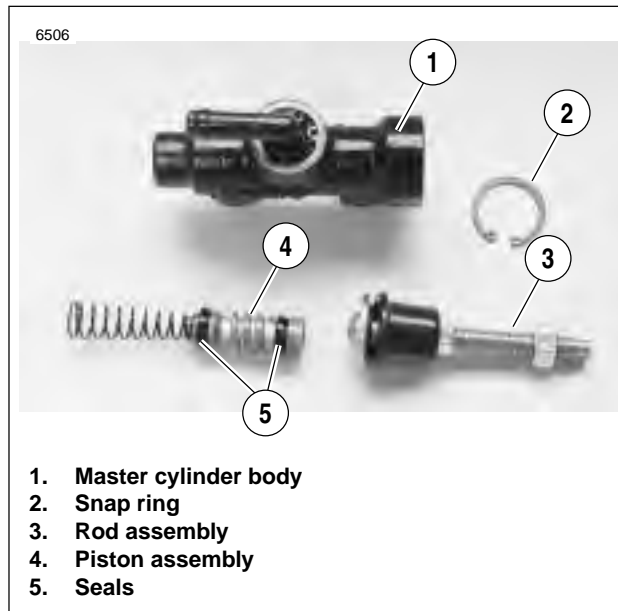

Figure 2-46. Master Cylinder Internal
1. See Figure 2-46. Slide rubber boot on rod assembly (3) away from master cylinder body (1).
2. Depress rod assembly (3) and remove internal snap ring (2). Discard snap ring.
3. Remove piston assembly (4) from master cylinder body (1).
4. Loosen adjuster locknut on the rod assembly (3).
5. Remove the clevis from the rod assembly (3).
2. See Figure 2-46. Assemble **new** piston components placing small end of spring behind primary seal of piston (4).
3. Lubricate master cylinder body (1) and piston seals (5) with **D.O.T. 4 BRAKE FLUID**.
4. Place round side of rod assembly (3) over piston. Depress piston (4) into master cylinder body (1) and secure with a **new** snap ring (2).